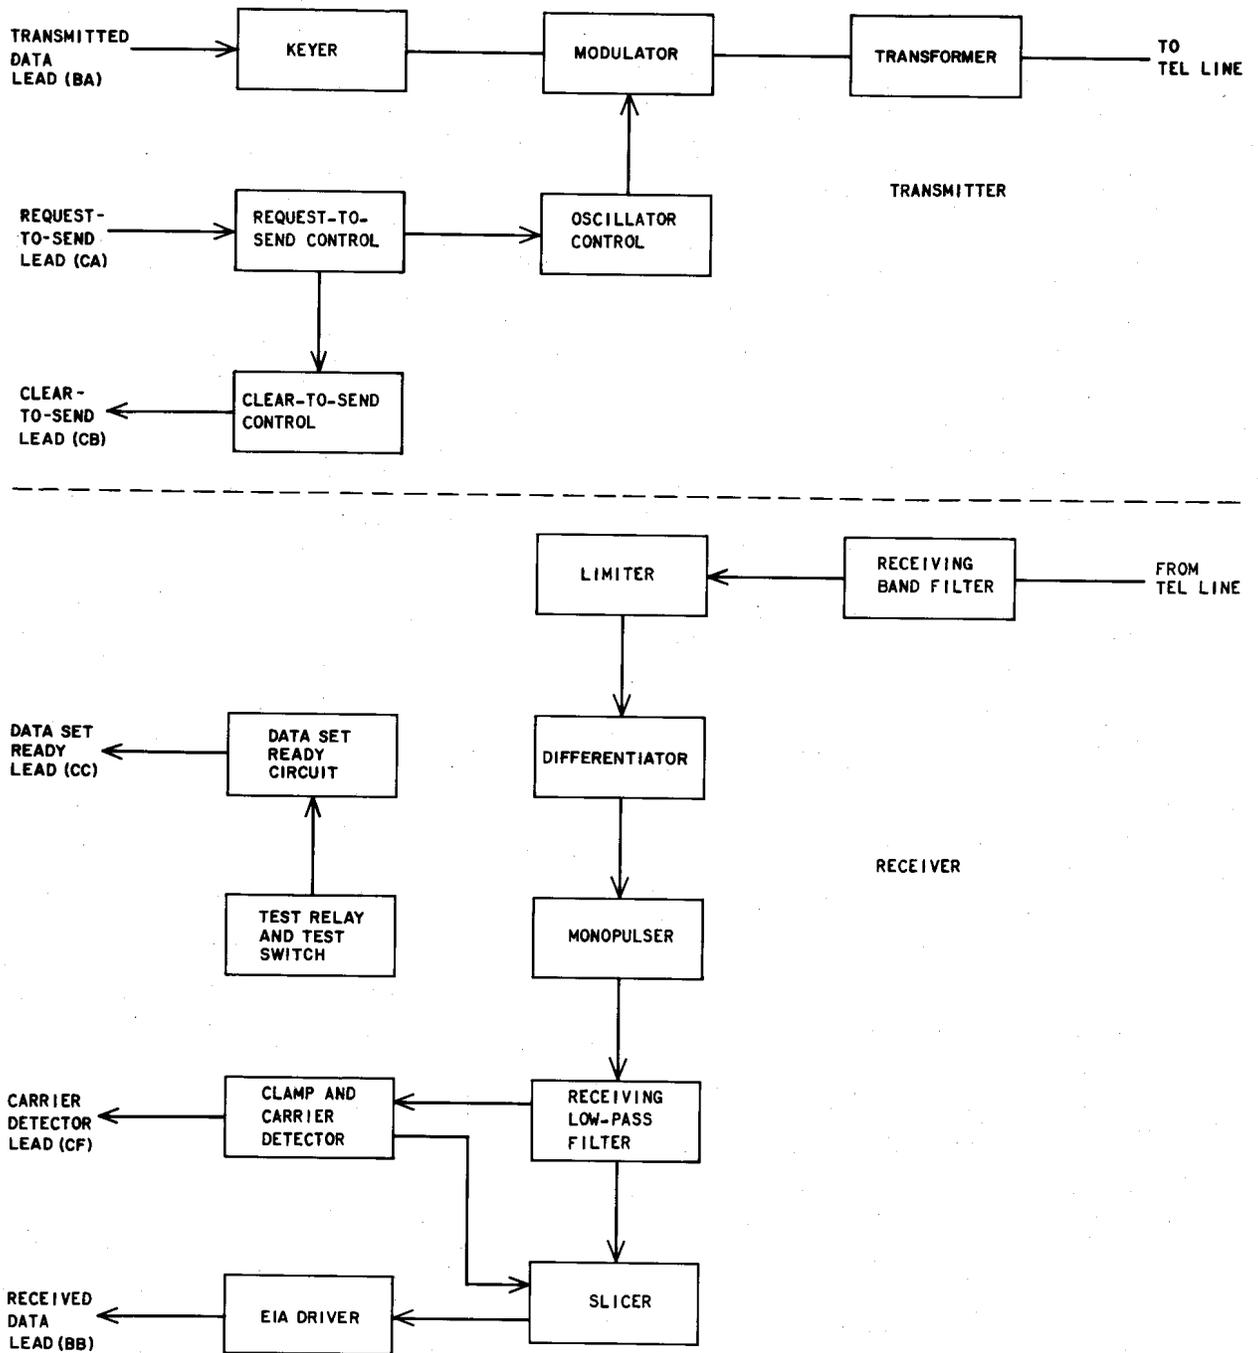

Fig. 5—Data Set 202R Block Diagram
3.03 Refer to Fig. 5 for a block diagram of data set 202R. The digital data from the business machine is in the form of positive and negative voltages. In response to the positive and negative voltages on the transmit data lead, the frequency-shift keyer changes the reactance in the oscillator to produce the mark and space frequencies.
3.05 Refer to Fig. 5 for a block diagram of the data set receiver. The frequency-shift-keyed (FSK) signal received from the line is first passed through a bandpass filter which passes both the mark and space frequencies but excludes out-of-band noise and distortion. The signal goes through a limiter which converts the input to a corresponding square-wave output. The full-wave rectifier